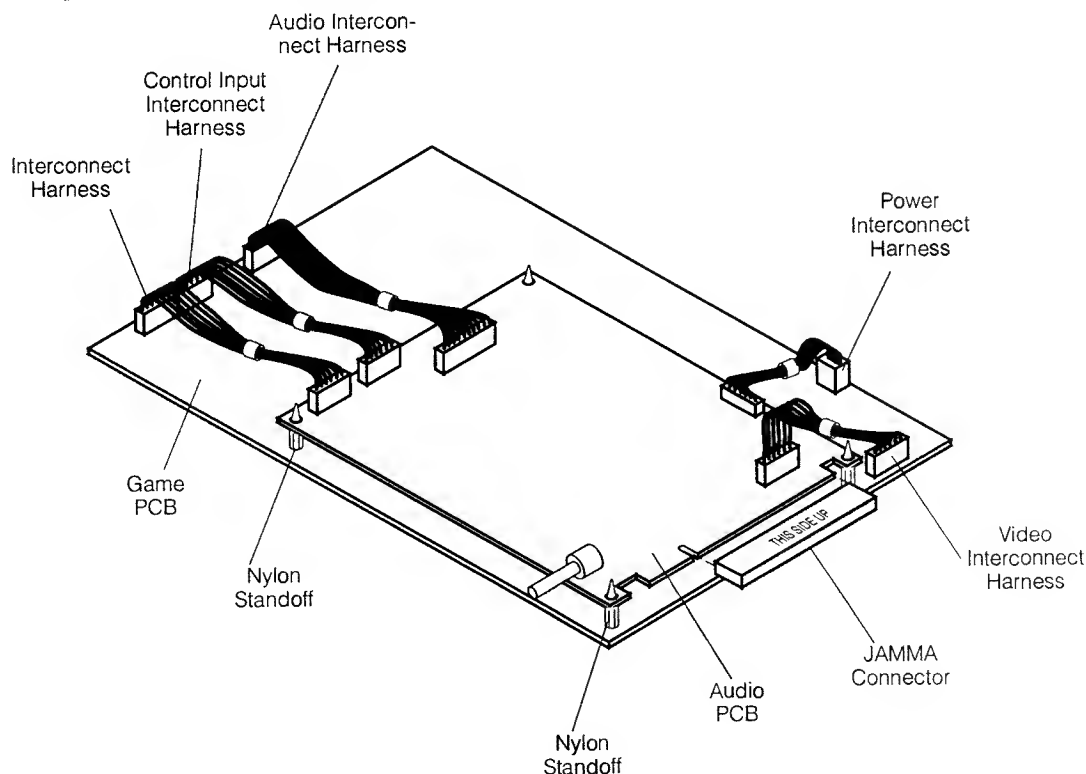

Figure 1-3 Game PCBs and Harnesses
2. Make sure the interconnect harnesses are installed correctly and are tight. See Figure 1-3.